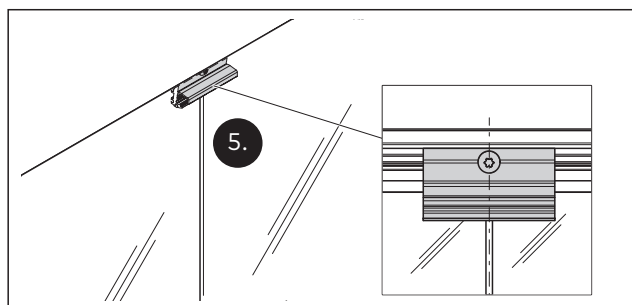

Fig. 43 The position of the glass clamping pieces on the joint between the overpanel and a side panel
6. Attach and fasten the glass clamping pieces in the horizontal mounting profile to the joint between the overpanel and the side panel (Fig. 43).